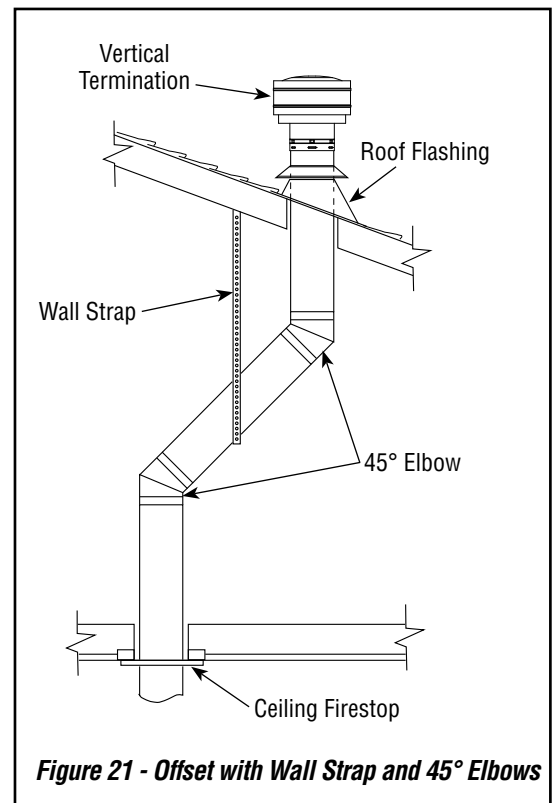

Figure 21 - Offset with Wall Strap and 45° Elbows
1. Determine route your vertical venting will take. If ceiling joists, roof rafters or other framing will obstruct venting system, consider an offset (see **Figure 21**) to avoid cutting load bearing members. **NOTE:** Pay special attention to these installation instructions for required clearances (air space) to combustibles when passing through ceilings, walls, roofs, enclosures, attic rafters, etc. Do not pack air spaces with insulation. Also note maximum vertical rise of venting system and any maximum horizontal offset limitations (see **Figures 17A**).
NOTE: If an offset is needed to avoid obstructions, you must support vent pipe every 3 feet. Use wall straps for this purpose (see **Figure 21, Page 22**). Whenever possible, use 45° elbows instead of 90° elbows. The 45° elbow offers less restriction to the flow of flue gases.
5. Place flashing over pipe section(s) extending through roof. Secure base of flashing to roof and framing with roofing nails. Be sure roofing material overlaps top edge of flashing as shown in **Figure 21, Page 22**. There must be a 1" clearance from vent pipe to combustible materials.